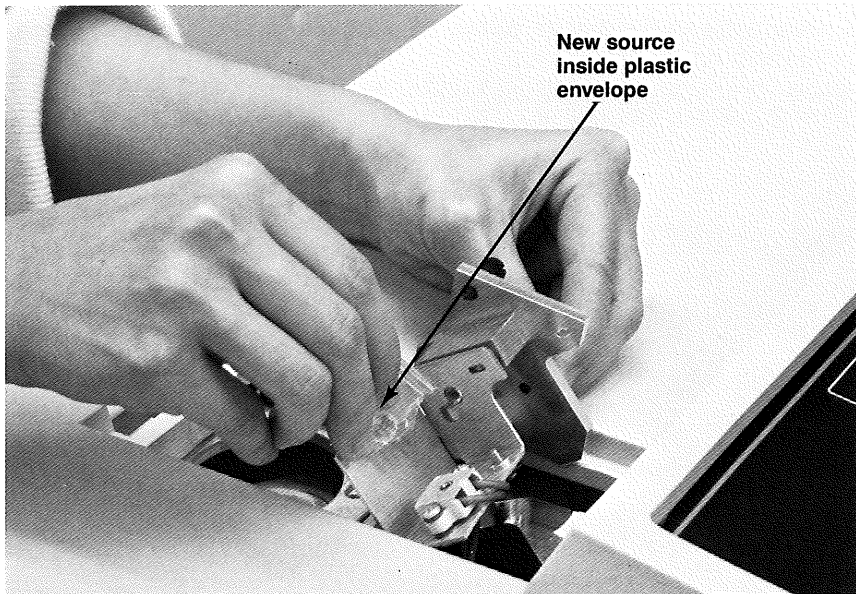

Figure 8-11.
7. Remove the new source from the box and open the end of the plastic envelope it is sealed in. Hold the source by the plastic envelope and insert the two connector prongs into the two holes on the source mount. Be sure that the source is pushed in as far as possible. See Figure 8-11.